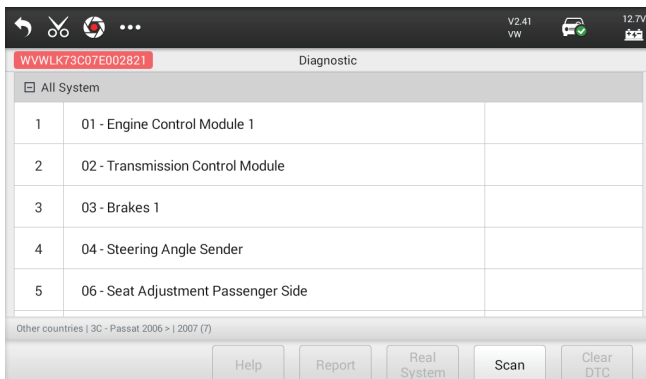

Figure4-5 Diagnostic
2. The system will then identify the inputted VIN. After successful vehicle identification, the system will move directly to the “diagnostic” screen. (figure 4-5).
- 1) Click on OK to move to “diagnostic” screen. (Figure 4-5)
1. Click "Clear DTC" to clear current trouble code. Or click "Clear DTC" button on diagnostic screen (figure 4-5) to clear all fault codes.